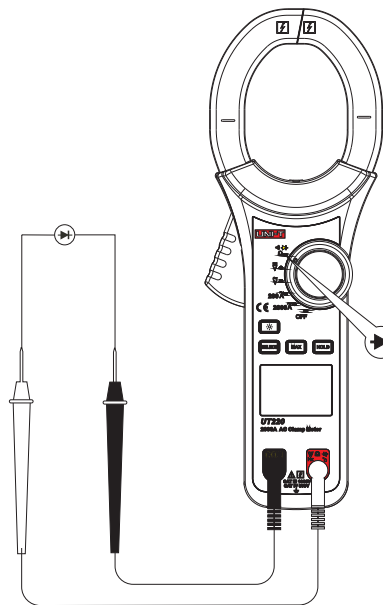

Figure 6
4. Diode measurement \rightarrow (See Figure 6)